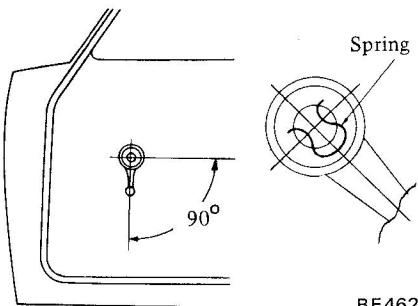

Fig. BF-23 Installation angle of regulator handle
- (2) With door glass up, set regulator handle at an angle shown in Figure BF-23.